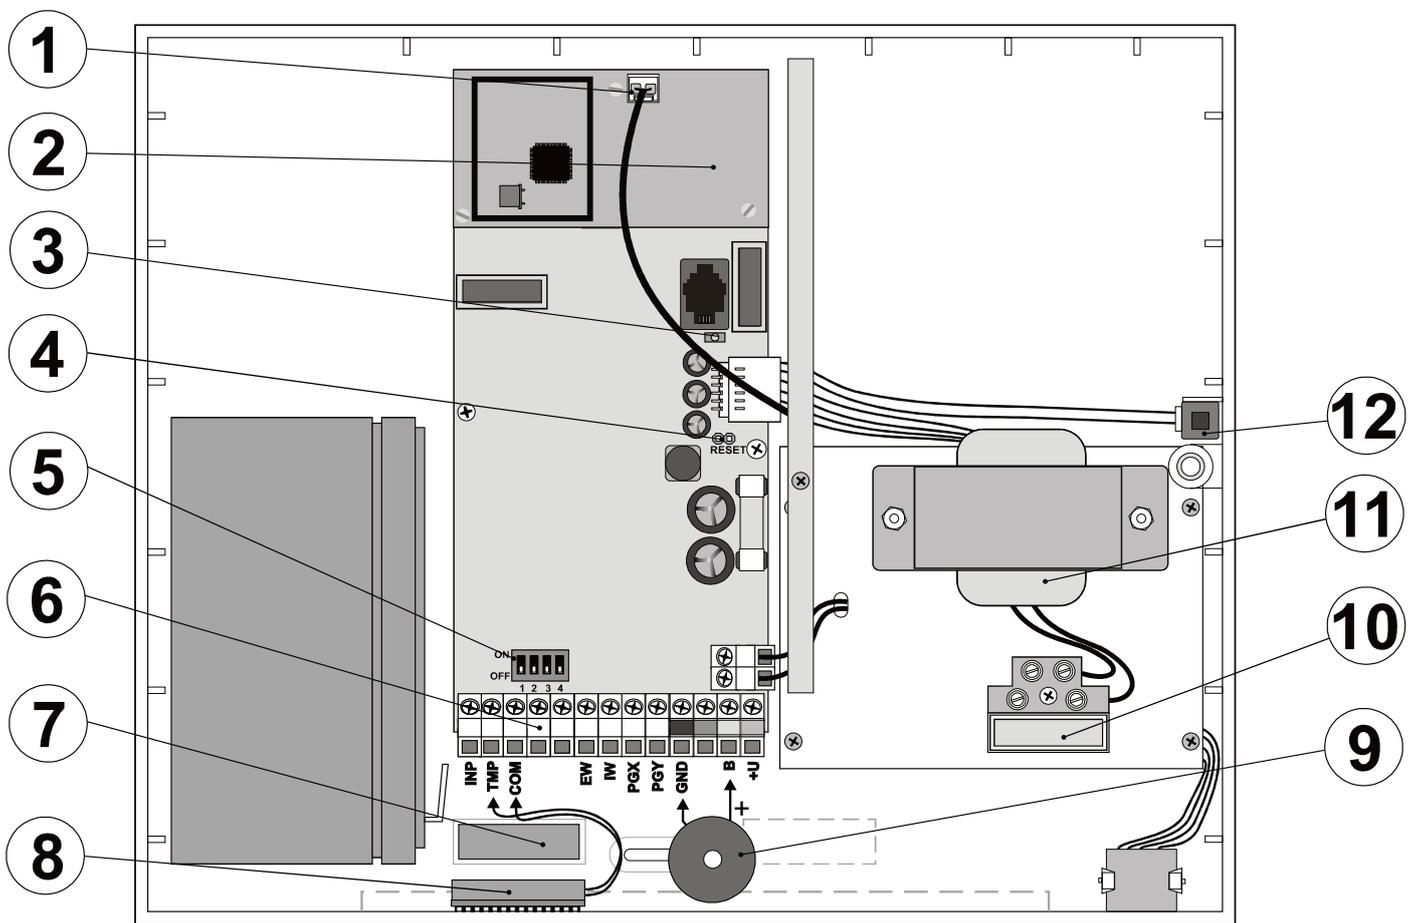

fig. 1 Repeater box layout
Remove the beeper for normal operation see fig. 1 (9).
4. Attach the permanent contact magnet onto the marked surface, see fig. 1 (7).
6. Stick the magnetic sensor (the second part with the conductors brought-out) to an interior side of the box (maximum separation from the magnet should be 2 cm), see fig. 1 (8).
8. Switch DIP2 to the ON position, see fig. 1 (5).